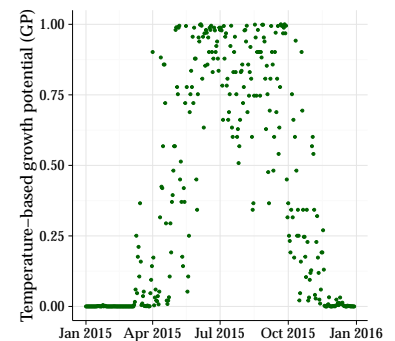
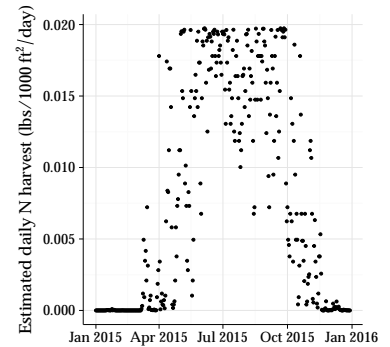

Figure 2: The temperature-based growth potential for cool-season grass calculated from the temperature data in Figure 1.
Figure 3: Estimated daily N use adjusted by temperature-based GP.
I find it useful to express the temperature as a value between 0 and 1, with values closer to 0 being far from the optimum temperatures for growth, and values closer to 1 approaching the optimum temperatures for growth. This is the temperature-based growth potential (GP) of PACE Turf.² In Figure 2, the daily GP for 2015 ranges from 0 to 1, giving an approximation of the growing season.
With the temperature data now converted to GP, all the temperatures are expressed as a number with a minimum of 0 and a maximum of 1. When it is too cold, grass won't grow, can't grow, and won't be using any nutrients. That's what Figure 2 shows. Then as temperatures warm in the spring the GP goes up, eventually getting close to 1 on days when the average temperature is close to the optimum temperature for cool-season grass growth. When the GP is high, it doesn't mean the grass *will* grow rapidly, but it means the temperature *is not restricting* growth.
Now I will link together the GP and this estimate of maximum N use. When the GP is 1, then I expect that to be a time of the year when the grass has potential to grow at its most rapid rate, and if it is so doing then it may use N at about the amount I predict for my desired growth rate – 0.6 lbs N/1000 ft²/month. Expressed on a daily basis, taking an average day, the maximum N use per day would be 0.02 lbs N/1000 ft²/day. And I know that when GP is 0, the grass won't be growing, and the N use will be 0. Because the GP is expressed on a scale of 0 to 1, I multiply the daily GP by the expected maximum N use per day to get a temperature-adjusted expected N use. That is shown in Figure 3.
Let's consider a few ways we might apply irrigation. Imagine that we have a putting green with a field capacity of 27% and a wilting point of 10%. The soil will never hold more than 27% water, and we want to always keep the soil at more than 10% water. In Figure 2, we see what the VWC would be
Figure 2: Calculated rootzone (10 cm depth) volumetric water content (VWC) for the first 14 days of August, assuming there is no rain, the daily evapotranspiration (ET) is 4 mm, the VWC on 1 August is at the field capacity (FC) of 27%, the frequent irrigation regime applies just enough irrigation to prevent the VWC from dropping below 18% on the next day, and the infrequent irrigation regime applies enough water to return the soil to FC when the VWC is predicted to drop below 11% on the next day.
Figure 3: Calculated rootzone (10 cm depth) volumetric water content (VWC) for the first 14 days of August, assuming there is no rain, the daily evapotranspiration (ET) is 4 mm, the VWC on 1 August is at the field capacity (FC) of 27%, the frequent irrigation regime applies just enough irrigation to prevent the VWC from dropping below 14% on the next day, and the infrequent irrigation regime applies enough water to return the soil to FC when the VWC is predicted to drop below 11% on the next day.
In the two irrigation regimes shown in Figure 2, the average VWC over the first 14 days of August are 21.9% for the frequent irrigation regime and 19.2% for the infrequent regime. In this case, the average soil moisture content is maintained at a higher level by frequent irrigation than by infrequent. But one can actually maintain a lower VWC by irrigating frequently than by irrigating infrequently. This counterintuitive result is shown in Figure 3.
This case keeps the infrequent irrigation regime the same, applying irrigation to return the soil to field capacity only to prevent the VWC from dropping below 11% on the next day. But the frequent irrigation regime shown in Figure 3 now is managed to apply just enough water to keep the VWC from dropping below 14% on the next day.